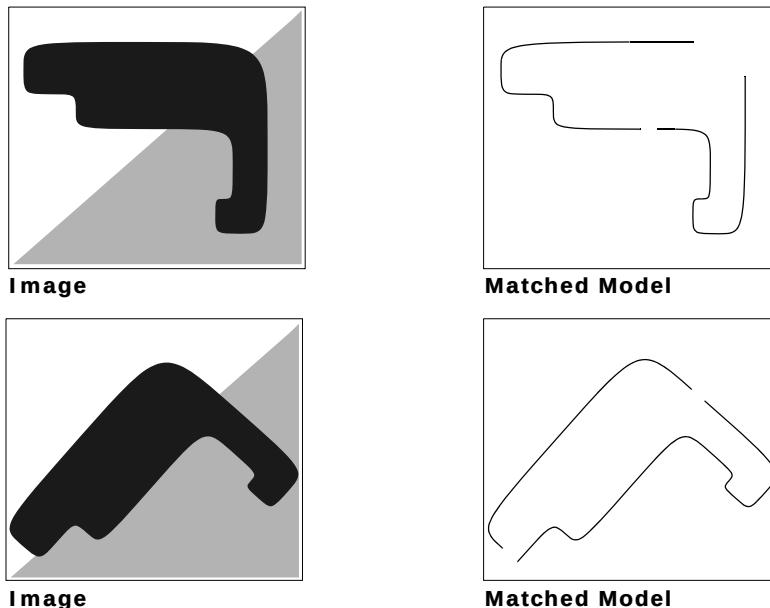

Figure 143 Examples of Matched Models on Non-Uniform Background in Runtime Images
- This unbroken representation of the part at the Outline Level will significantly improve the robustness of the Locator. In runtime images, the Locator will be able to extract a significant part of the contour geometry even though the contour is broken into smaller sections. See Figure 143.